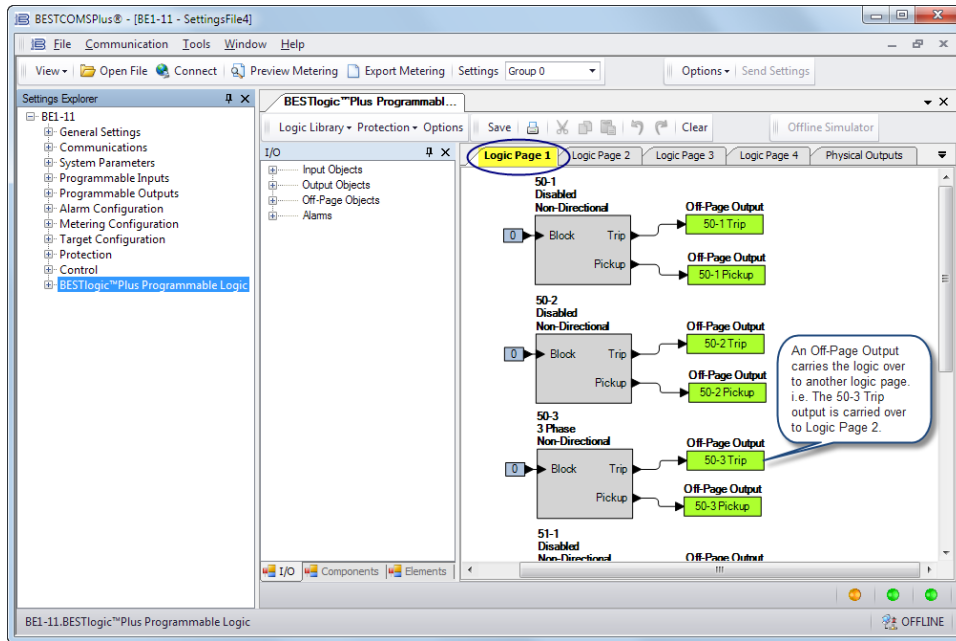

Figure 2-13. BESTlogicPlus Logic Page 1
Step 9: In the Settings Explorer, click BESTlogicPlus Programmable Logic to open the logic diagram. Click the Logic Page 1 tab. See Figure 2-13. Examine the 50-3 element. The Logic 0 connected to the Block input indicates that the 50-3 element is never blocked.